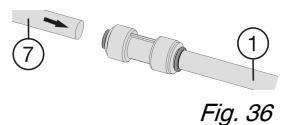

Fig. 36
- Connect the supplied extension hoses *Fig. 36 (1)* to the appliance hoses *Fig. 36 (7)*: Slide the appliance hoses into the connectors as far as they will go (approx. 25/32 " (20 mm)).